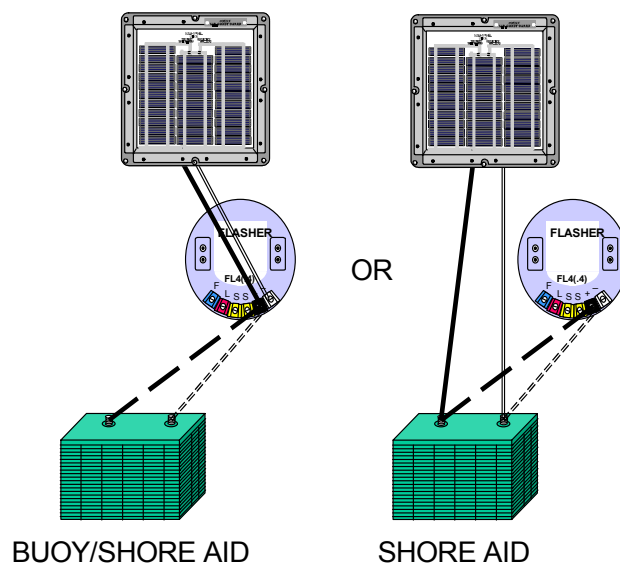

Figure 2-8
- g. The battery may be wired, as shown in Figure 2-8, whichever is convenient.